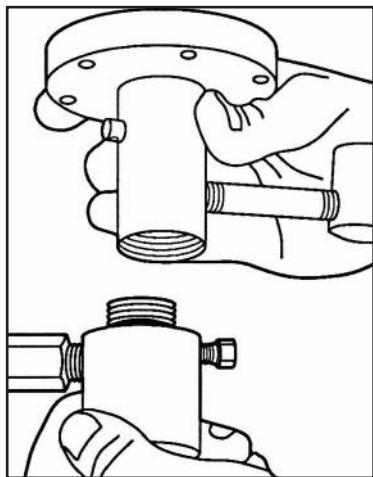

Figure 43
4. Unscrew the oil chamber from the fluid cylinder on the pump body assembly. (Fig.43)